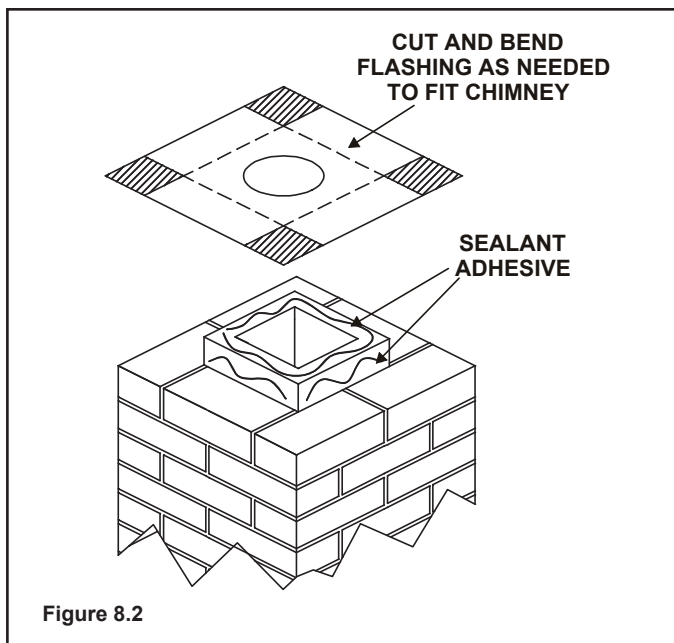

Figure 8.2
- Trim chimney top plate to minimize excess overhang or bend over flue tile (see Figure 8.2).